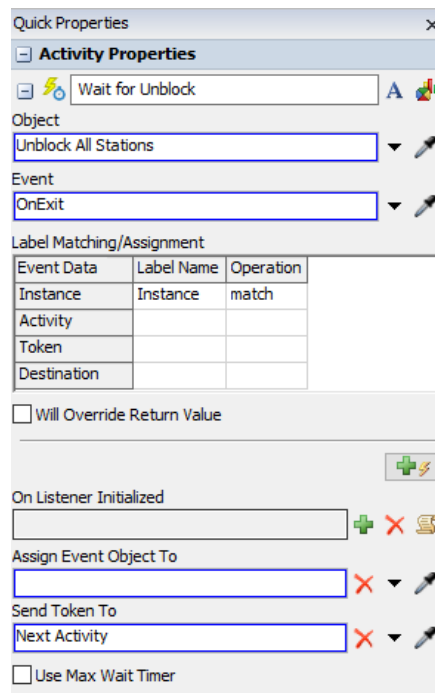

Figura 107- Quick Properties Wait for Unblock
- Label Matching/ Assignment > Adicione em Instance > Instance e em Operation Match conforme Figura 107.